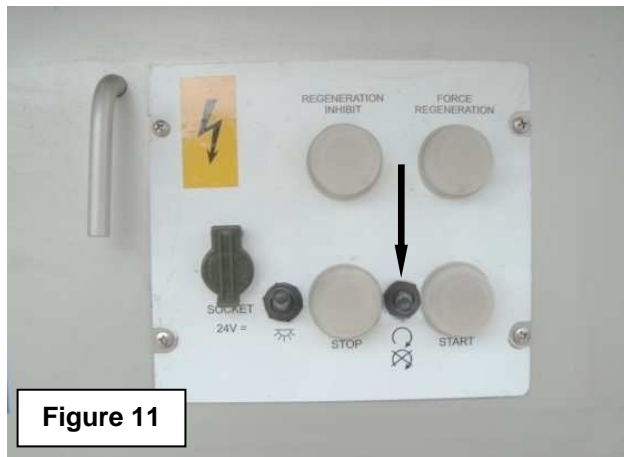

Figure 11
**CAUTION:** When working in the engine compartment, turn the starter motor inhibitor switch to “starter motor disabled” (Figure 11).